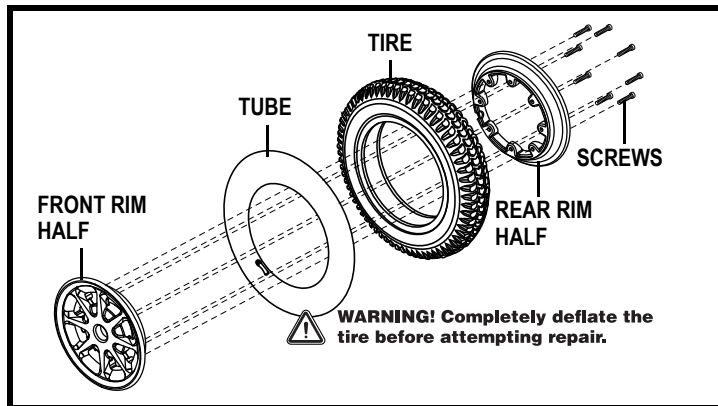

Figure 21. Quantum Jazzy 1650 Drive Wheel Disassembled
6. Remove the screws from the rim assembly and separate the front and rear rims. See figure 21.